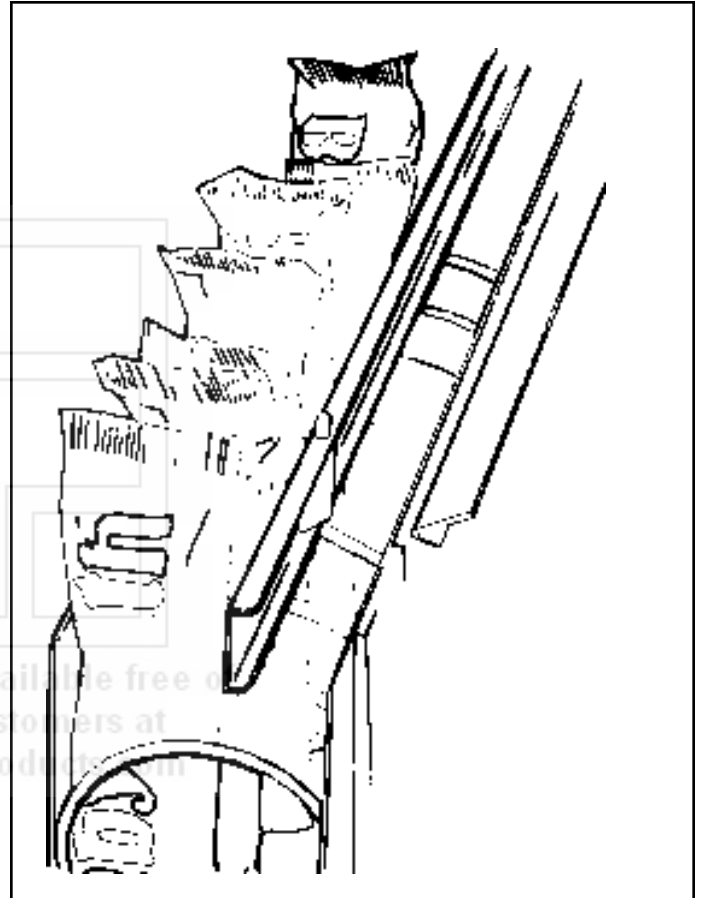

Figure 6. 8-selection shelf product spacer positioned to hold candy upright.
7. **Product Spacers, 8-selection shelf.** The 8-selection shelves are equipped with a product spacer (Figure 6.) that can be pivoted from the right side of each product space. These spacers should be pivoted out to hold the product upright, but not tight against the product. Leave about 1/8" clearance between the spacer and the product.